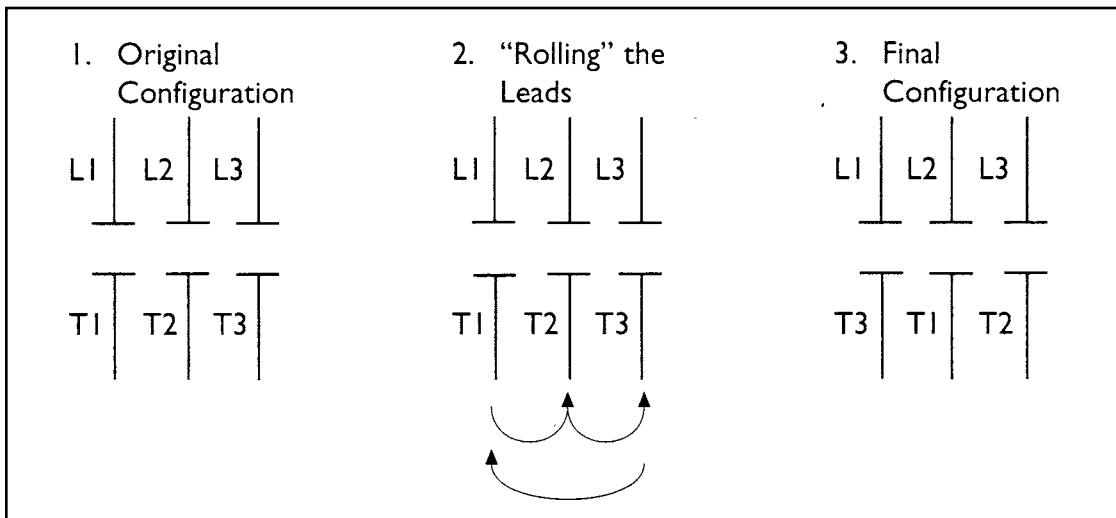

Figure 3.7
5. If the current imbalance is greater than 5%, "roll" the leads and re-test (Figure 3.7, "Rolling" the Leads to Balance Current Draw). If "rolling" the leads does not correct the problem, the source of the imbalance must be located and corrected. For more information on current imbalance, refer to the motor operation manual.